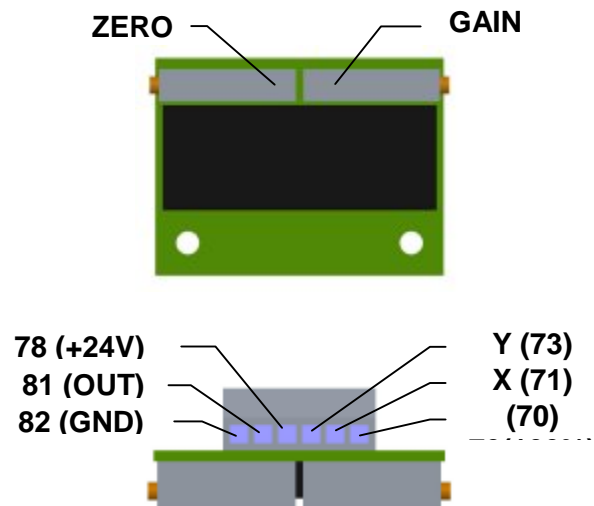

Fig.7
3.4.2 EPV – 3-wire version (Fig. 7)
- Adjust the resistive transmitter according to the previous chapter. The resistance is to be metered on the terminals 0%-100% (Fig. 7). The used transmitter resistance is 2000Ω or 100 Ω.